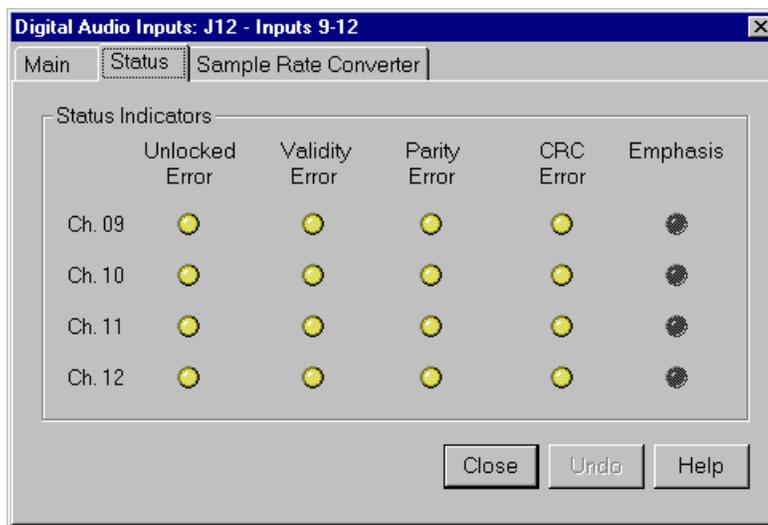

**Figure 29.** Digital Audio Input dialog box, Main tab
1. Expand Audio Input, and then click one of the Digital Channels to bring up the Digital Audio Input dialog box (Figure 29). The channel numbers on the left refer to the physical input connectors on the audio input box. **Ch. 01** and **Ch. 02** refer to the channel pair on the first connector, and **Ch. 03** and **Ch. 04** refer to the pair on the second connector, and so forth.